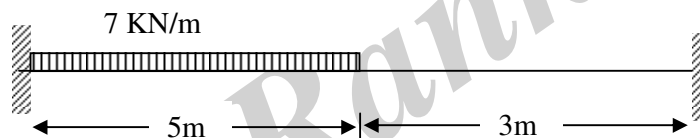

Figure 1
2. Find fixed end moments for the fixed beam shown in Figure 1